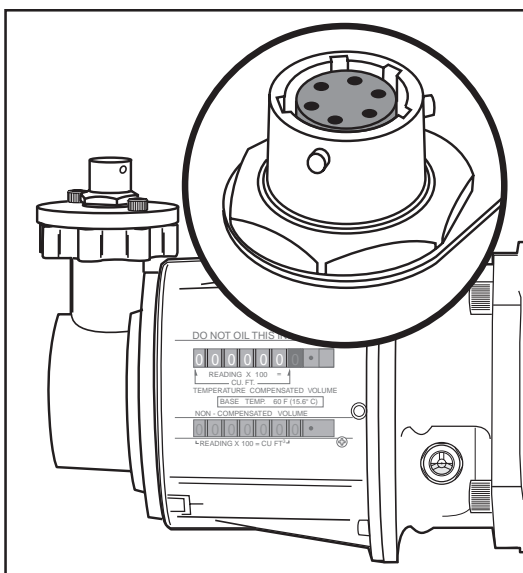

Fig. 3-4 CMTC w/Pulse Output -
- CMTC with pulse output mounting capability (Fig. 3-4).